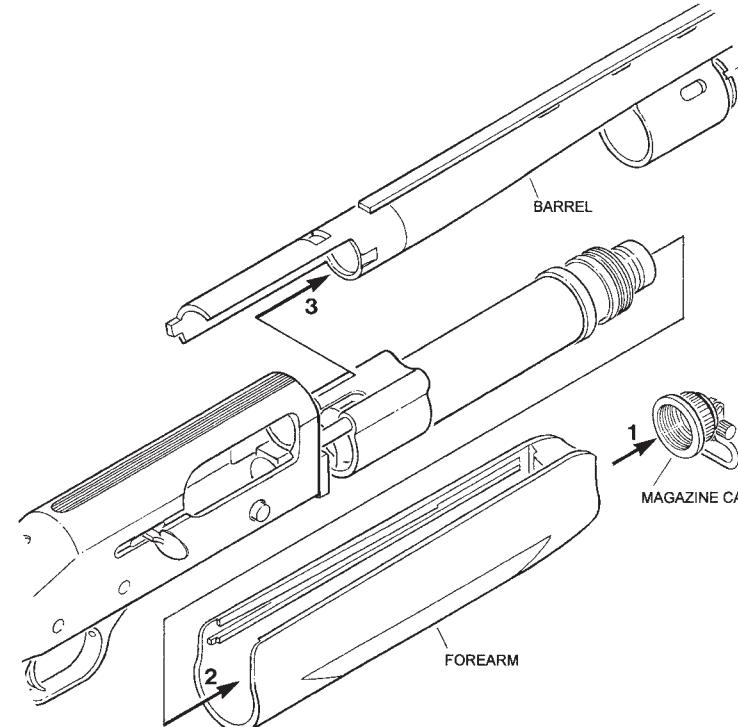

Figure 9
1. Unscrew the magazine cap (Figure 9).